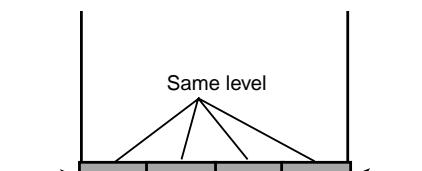

Figure 8. Sub Color
9. Set the data with numeric keys 5 - 0 for waveform shown in Figure 8 (Flat Waveform).